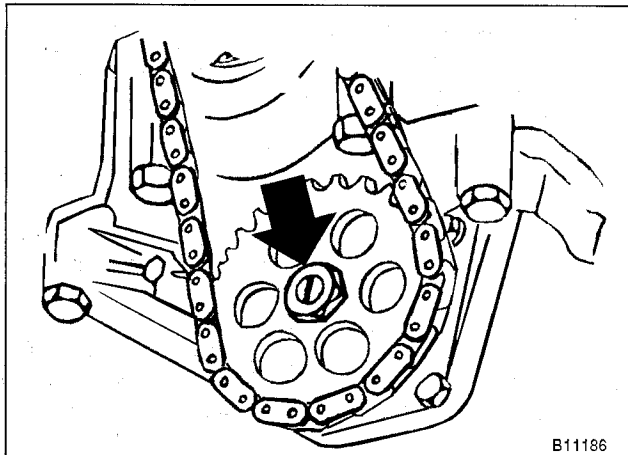

Fig. 16. Oil pump sprocket mounting nut (left-hand thread) on 6-cylinder engine (arrow).
3. Remove oil pump sprocket mounting nut (left-hand thread). See Fig. 16. Lift sprocket off together with drive chain.